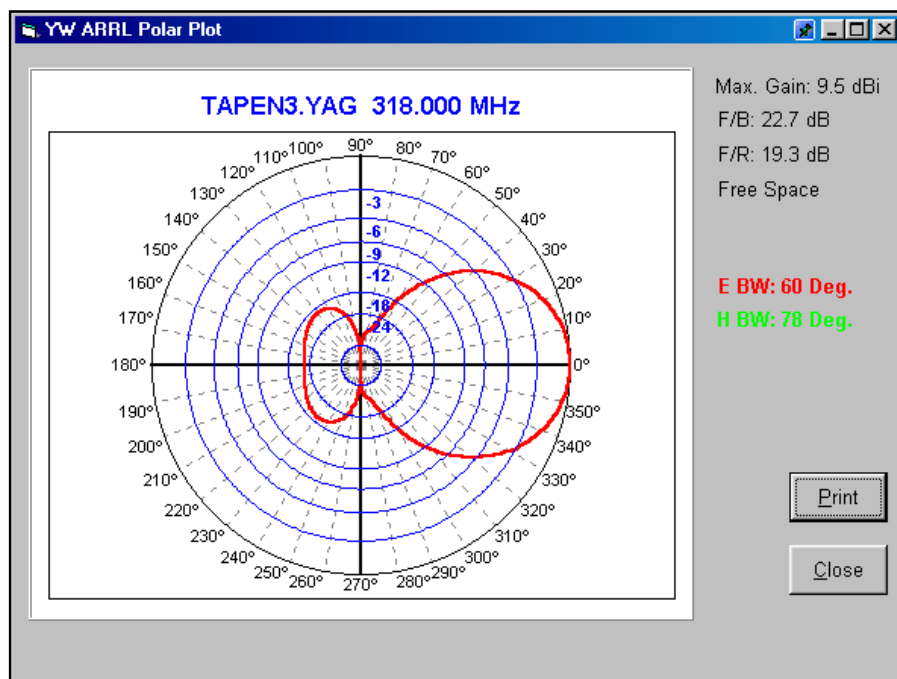

Fig 6—Computer modeled pattern for the antenna.
directionality. The beamwidth is quite narrow as you can see from the computer simulation of the pattern in Fig 6. A narrow pattern makes it easy to peak up the noise from an emitter as you swing the antenna back and forth, up and down.
The Yagi is computer optimized for the best pattern and impedance match using the computer program Yagi Optimizer (YO). The front-to-back ratio of 25.2 dB is adequate for good direction finding. [Fig 6 was generated with YW, a similar program packaged with *The ARRL Antenna Book*. The